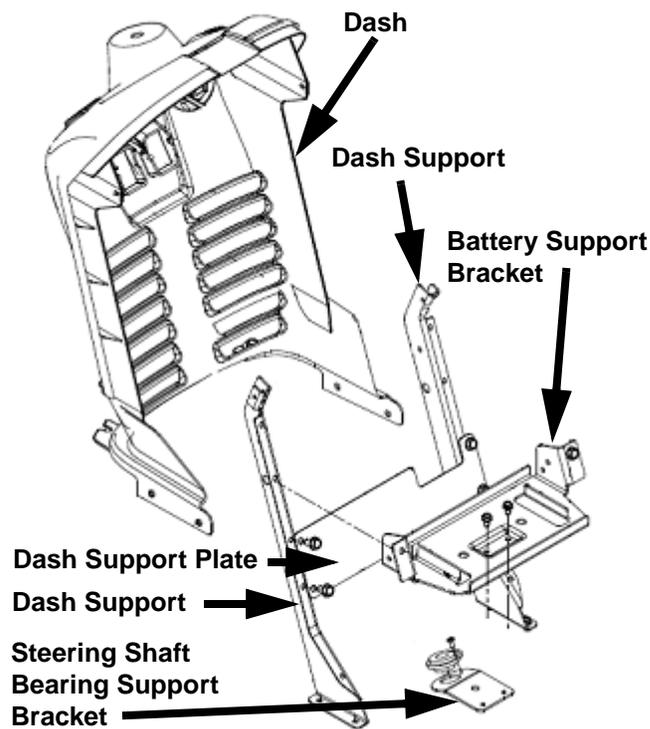

FIGURE 2
4. Remove the two screws from the center of the Battery Support Bracket that secure the Steering Shaft Bearing Support Bracket. See Figure 2.
5. It is suggested to remove the Battery Support Bracket and Dash Support Plate if present. This allows easier access to the Hex Flange Bearing. **NOTE:** The Battery Support Bracket does not need complete removal from the unit just disconnected from the right and left Dash Supports, so it can be moved out of the way. See Figure 2.